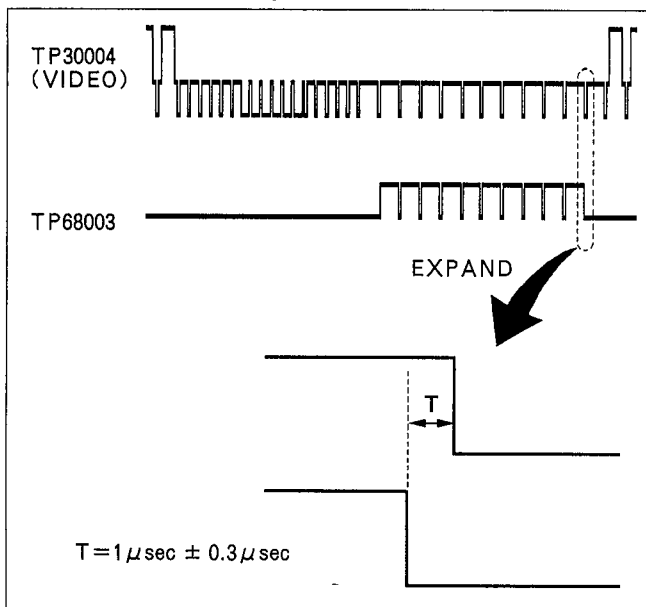

Figure E57
1. Connect a scope to TP3004 for CH-1 and TP68003 for CH-2 and expand V-Sync portion as shown in Figure E57.
2. Adjust VR68001 so that the "T" becomes  $1 \mu\text{sec} \pm 0.3 \mu\text{sec}$  as shown in Figure E57.